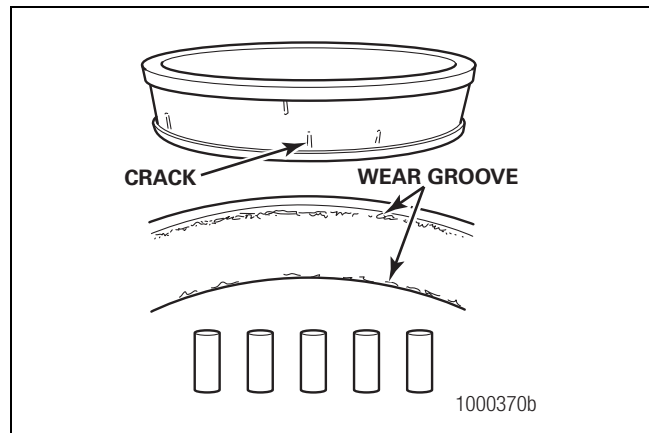

Figure 5.2
- There are deep cracks or breaks in the cup, the cone inner race or the roller surfaces. Figure 5.2.